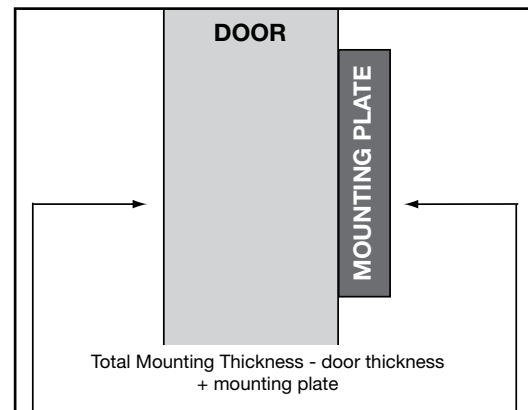

Figure 13
1. Measure total mounting thickness (door thickness + mounting plate). (Figure 13.)